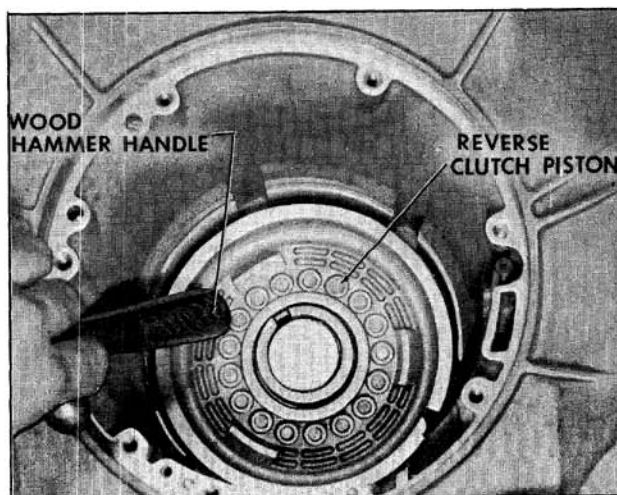

Fig. 6-487 Installing Reverse Clutch Piston
1. With transmission in vertical position, install the reverse clutch piston into case. Tap piston with hammer handle to make certain piston is seated in case. (Fig. 6-487)